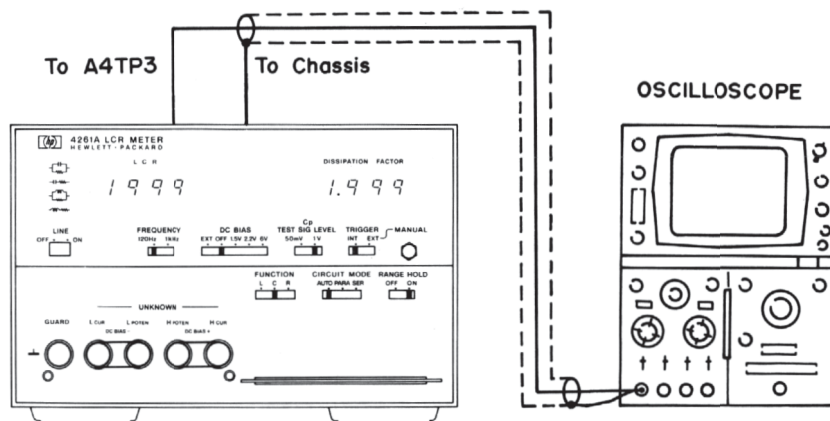

Figure 5-2. A4 Board Offset Adjustment.
- Connect BNC to alligator clip cable between oscilloscope and 4261A A4TP3 and 4261A chassis (see Figure 5-2).